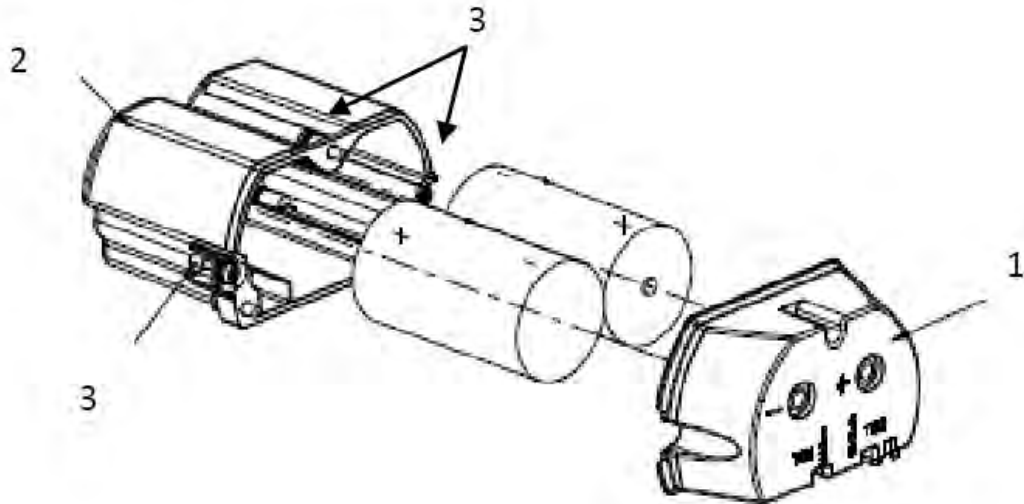

Figure 8: IS Battery Pack
- Remove top of battery pack by using a #1 Philips or 1/8" slotted screwdriver for the screws identified as #3 in Figure 8.
- Insert the Battery pack into the transmitter. Reattach the screws as indicated in Figure 8, item 3, to 0.4 to 0.6 N-M (3.5 – 5.3 Lb-in).